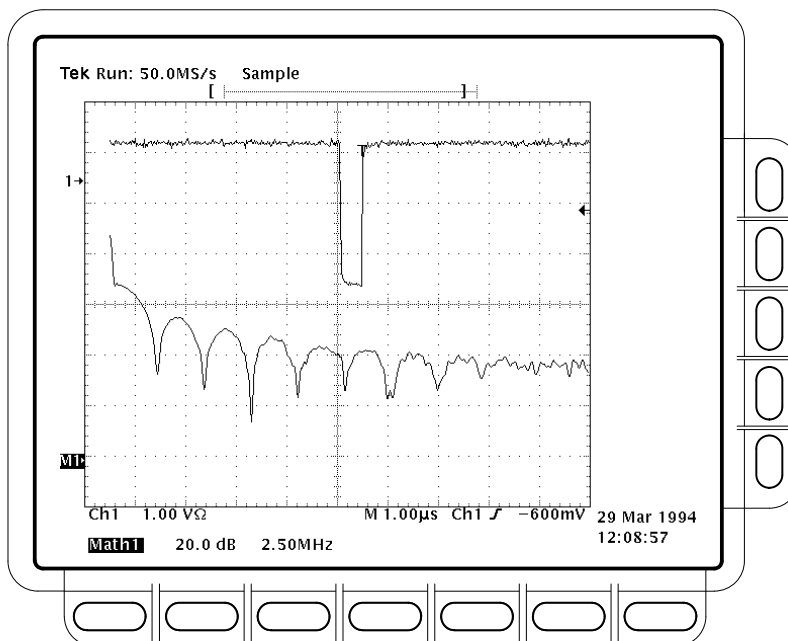

Figure 3–88: FFT Math Waveform in Math1
12. Press **OK Create Math Wfm** (side) to display the FFT of the waveform you input in step 1. (See Figure 3–88.)